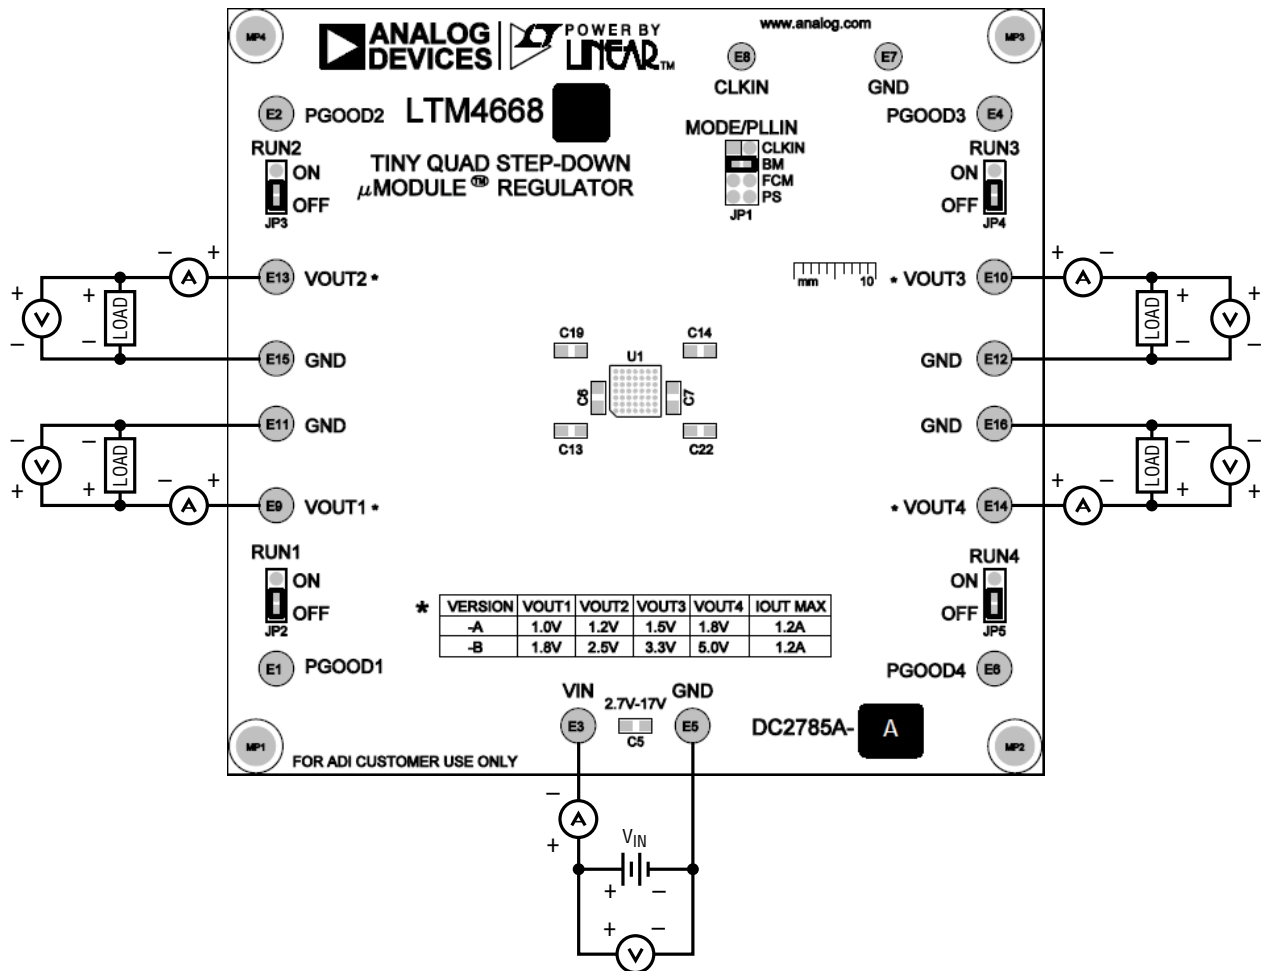

Figure 1. Test Setup
Demonstration circuit 2785A-A is an easy way to evaluate the performance of the LTM4668. Please refer to Figure 1 for test setup connections and follow the procedure below.
3. With power off, connect the loads, input voltage supply and meters as shown in Figure 1.